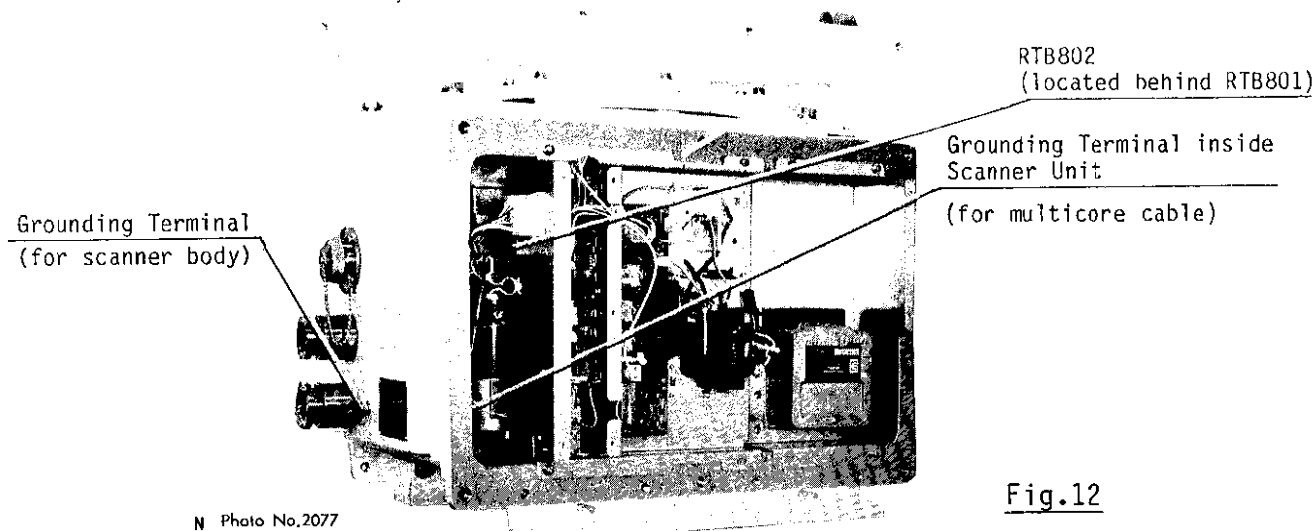

Fig.12
- (12) Connect each lead wire and outer/inner shields to RTB801 and the grounding terminal inside the scanner unit (Fig.12) respectively, referring to the interconnection diagram on page AP1-21.
- (13) Put the terminal board assembly back in position.
- (14) Close the scanner housing covers, making sure that the packing surface of the scanner cover is properly greased and is free of dirt.